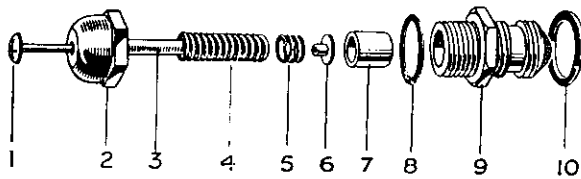

Fig. 19. Oil Pressure Release Valve.
42. The illustration (Fig. 19) indicates the construction of the valve. Dismantle as follows: